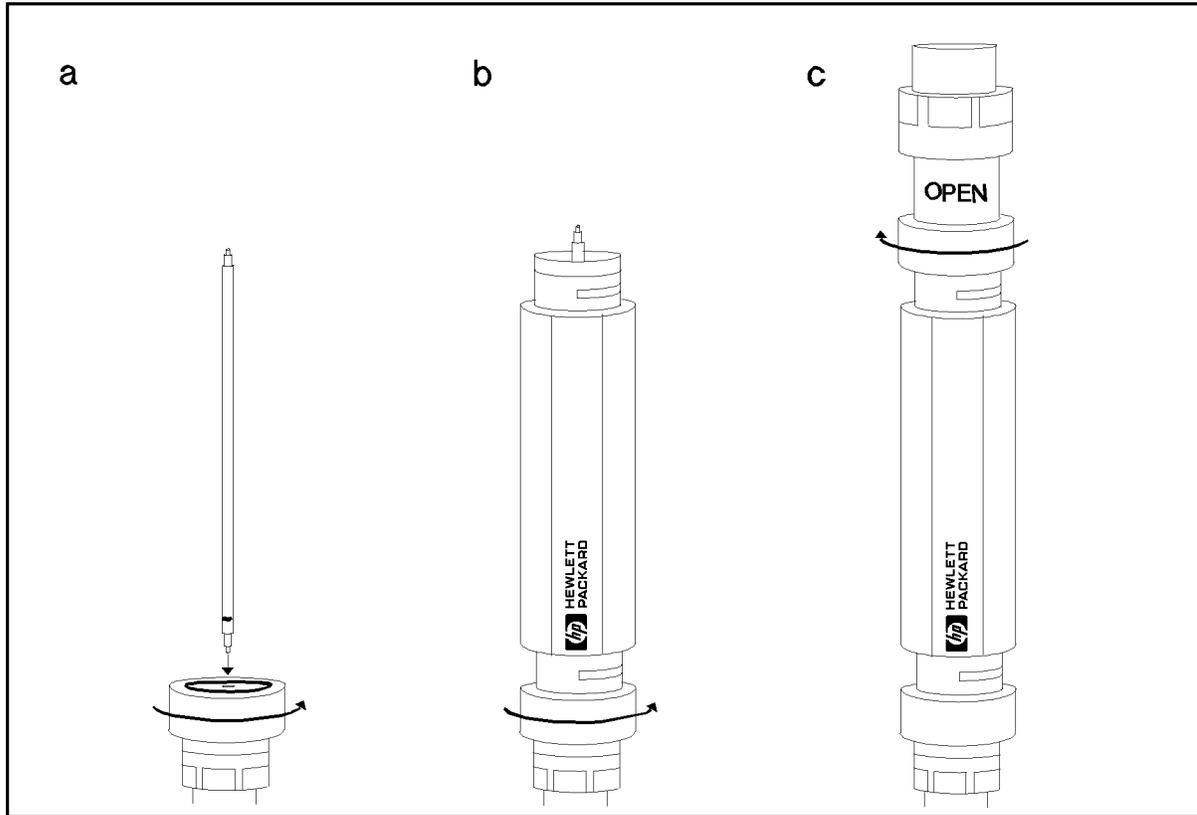

Figure 2-5. 10 cm Airline with Open Measurement Test Setup
38. Connect the 10 cm airline and open termination to the test head, using the following procedures (see Figure 2-5).